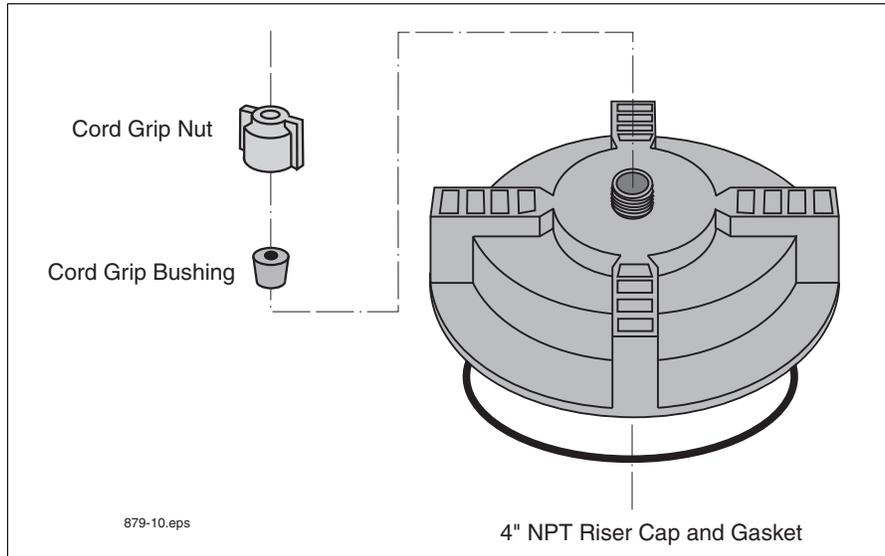

Figure 4. Cap And Cord Grip Kit
This Riser Cap kit (Table 3) contains a non-metallic cap which screws onto the 4" NPT riser (Figure 4). The cap comes drilled and tapped with a cord grip.
1. If using the one piece cap (see Figure 4 on page 8), push the end of the probe cable through the cord grip bushing and nut on the cap, leaving a minimal amount of slack between the probe and cap. Screw the cap onto the riser by hand until the gasket first contacts the pipe. Then lightly tap the cap with a hammer to tighten it an additional 3/4 turn. Go to Step 3.
1. If using the one piece cap (see Figure 4), push the end of the probe cable through the cap and cord grip bushing, leaving a minimal amount of slack between the probe and cap. Discard the cord grip nut and attach the Adapter Nut from the AST kit to the cap (see Figure 7). Tighten the Adapter Nut until the cable is held firmly. Go to Step 3.